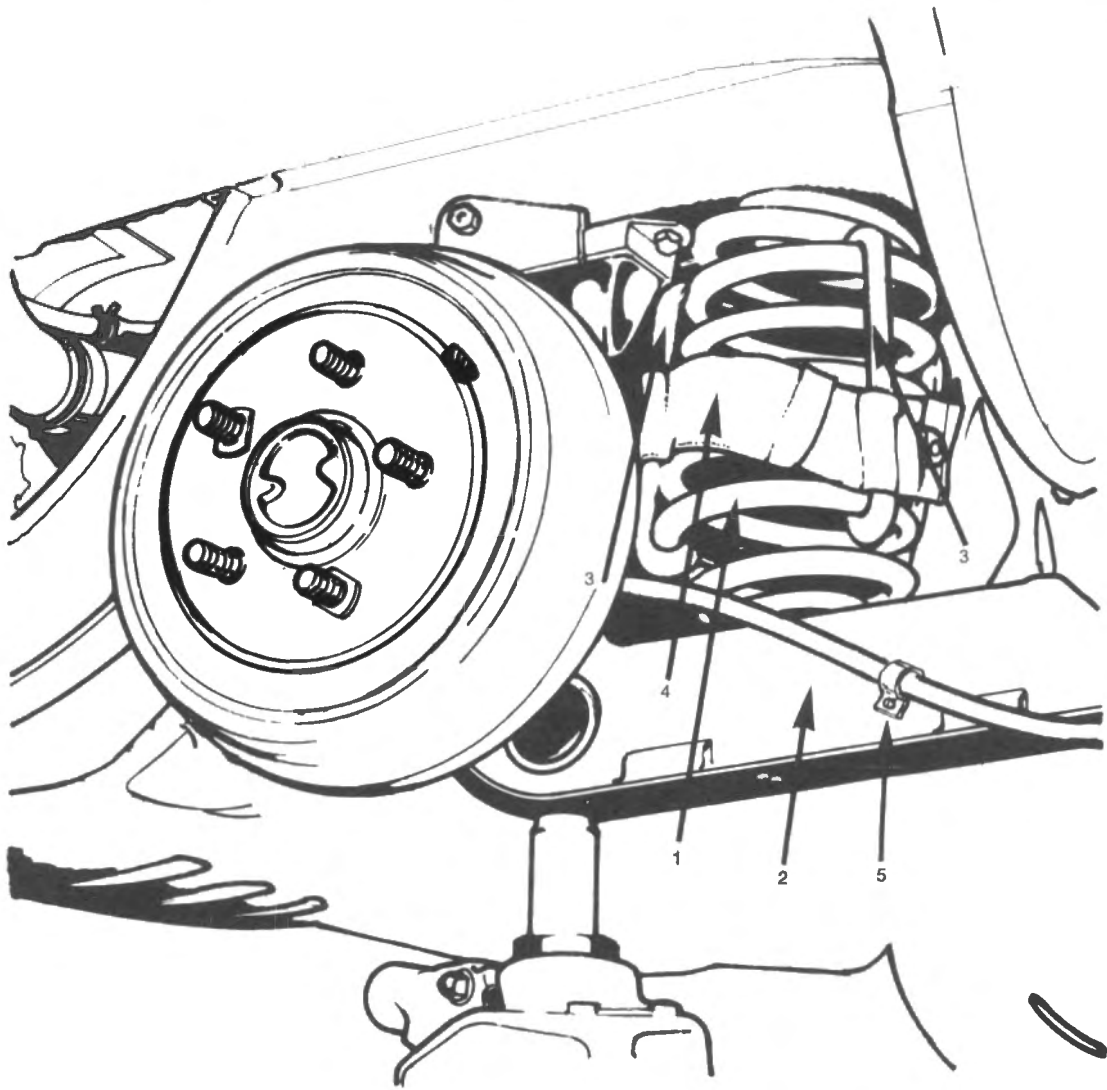

Fig. O-18
- 4 Fit spring retaining hooks tool No. 18GA064 and fasten safety strap. Fig. O-18.